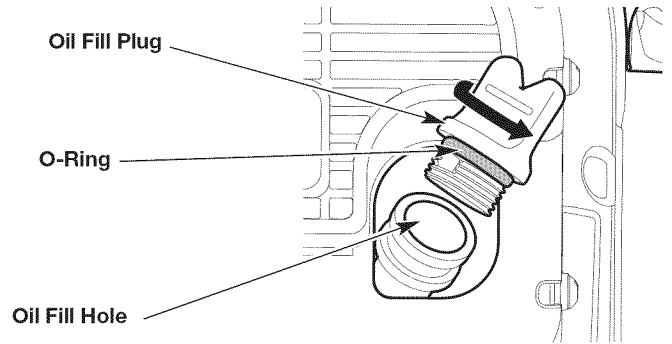

Fig. 5
2. Unscrew the oil fill plug (Fig. 5).
3. Pour the entire container of oil into the oil fill hole (Fig. 5). **DO NOT** overfill. Refer to *Checking the Oil Level*.
**NOTE:** Make sure the O-ring is in place on the oil fill plug (Fig. 5).